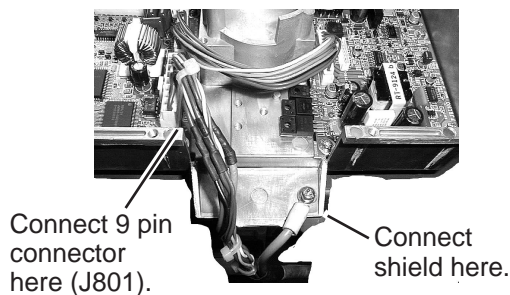

Figure 8 How to connect the antenna cable to the antenna unit
8. Referring to Figure 8, fasten the shield cable to a screw (M4x 10) on the chassis to ground the unit.
10. Referring to Figure 8, connect the 9-pin connector of the antenna cable to J801.